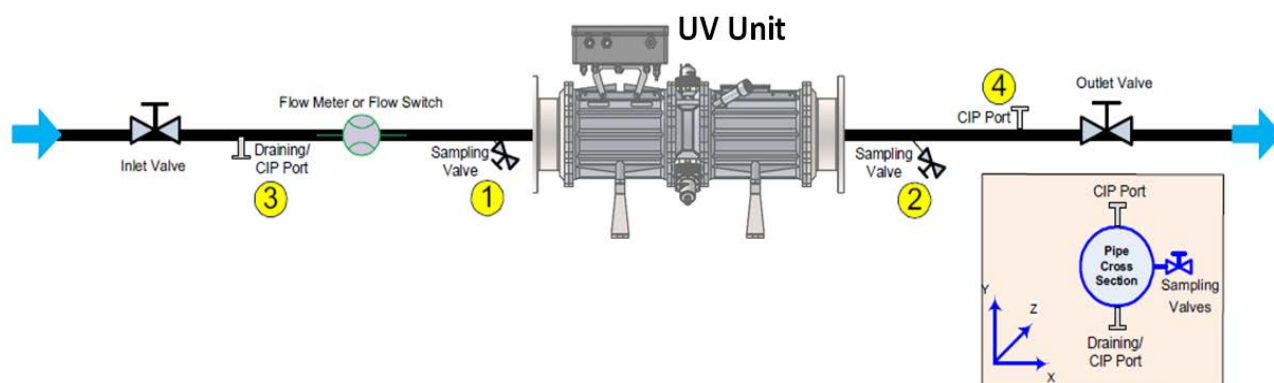

Figure 5-6: CIP Ports and Sampling Valves Orientation
Step 1. On the Inlet side, install the **Long welding ferrule** or **threaded male adapter (1)**.
- Position aseptic sampling valves (1 & 2 in Figure 5-6 on page 5-47) **horizontally** (90^0) on the pipe center, within 50cm of the Unit.
- Weld the 1 inch **ferrule (1)** clamp fitting at a horizontal orientation (3 or 9 o'clock).